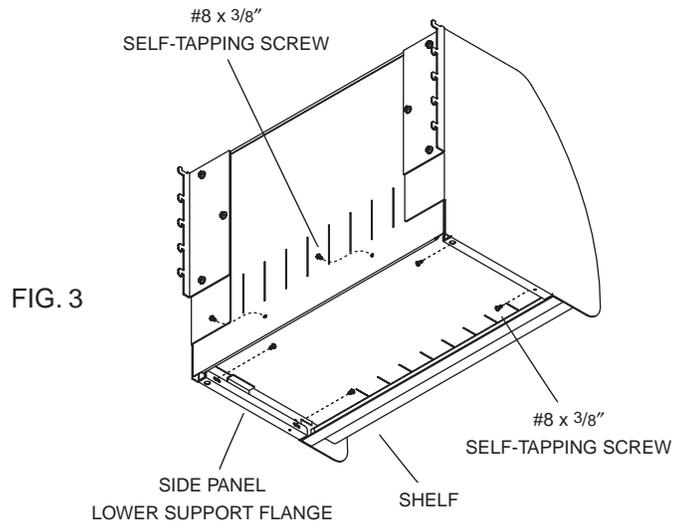

FIG. 3
5. At the lower rear edge of the cabinet, install (2) #8 x 3/8" self-tapping screws through the back and into the shelf (Figure 3).
6. Tighten all (6) screws and flange nuts.